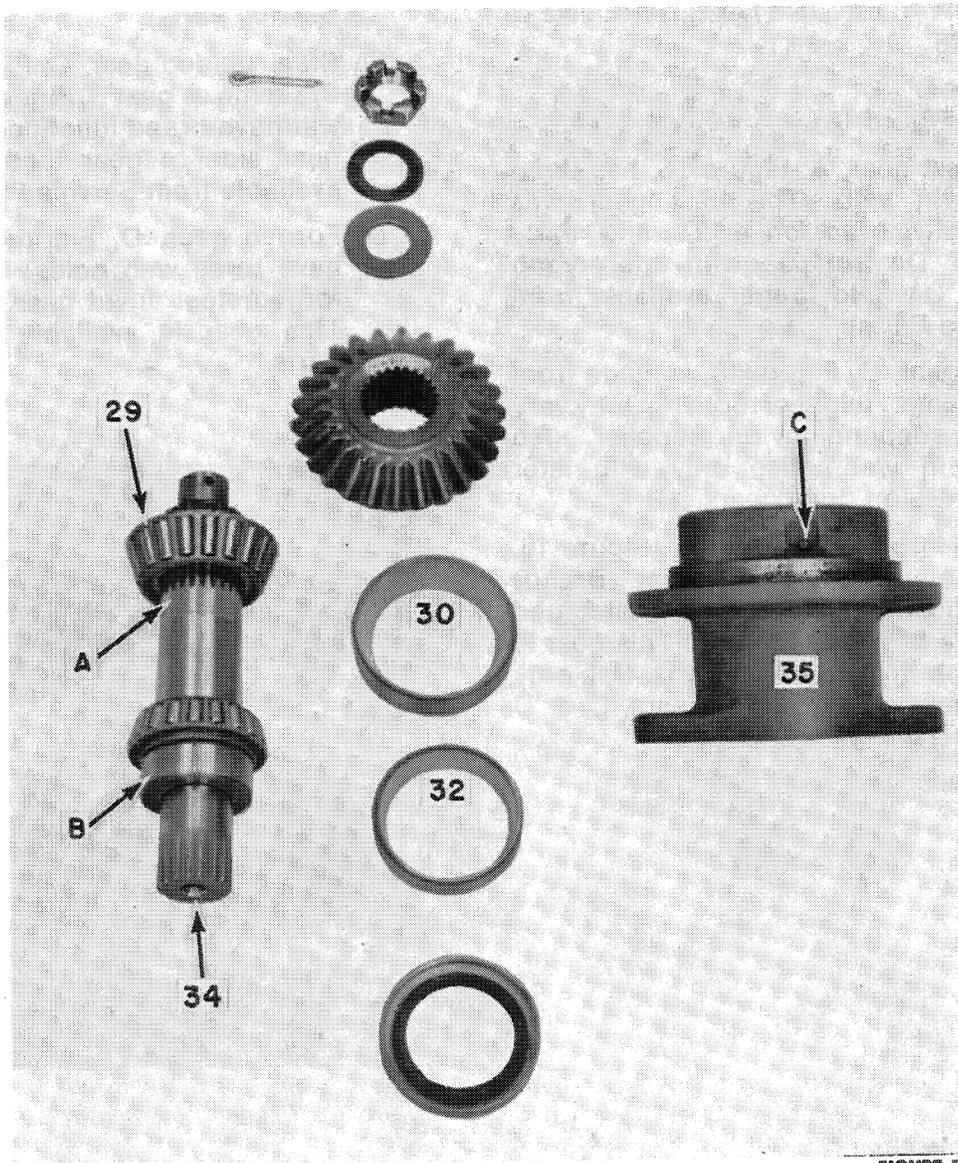

FIGURE 15
### 2. Input shaft components (See Figure 15)
- A. Check shaft (34) for worn splines where front bearing cone (29) seats, A, Figure 15.
- B. Check oil seal collar for wear at B, Figure 15.
- C. Bearing cups (30 and 32) must be tight and fully seated in mount assembly (35).
- D. Oil port, C, Figure 15, at top of mount assembly must be open for free passage of oil.